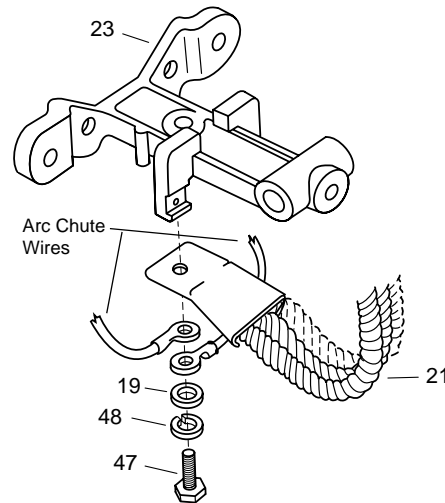

Figure 6: Assembling the Arc Chute Wires and Shunt
3. Remove the hex-head cap screw (47), lock washer (48), washer (19), arc chute wires, and shunt (21) from the contact arm support (23).
5. Remove the hex-head nut (17), lock washer (8), hex-head cap screw (45), and arc chute.
8. Reconnect the arc chute wires and shunt (Figure 6), securing them with the washer, lock washer, and hex-head cap screw.
3. Disconnect the bottom end of the shunt (21) by removing the hex-head cap screw (47), lock washer (48), washer (19), and arc chute wires.
4. Disconnect the top end of the shunt by removing the hex-head nut (20), lock washer (48), and washer (19).
5. Ensure that the auxiliary arm pin (27) is centered and the set screw (18) is tight.
7. Secure the bottom end of the shunt and the arc chute wires with the washer, lock washer, and hex-head cap screw (Figure 6).